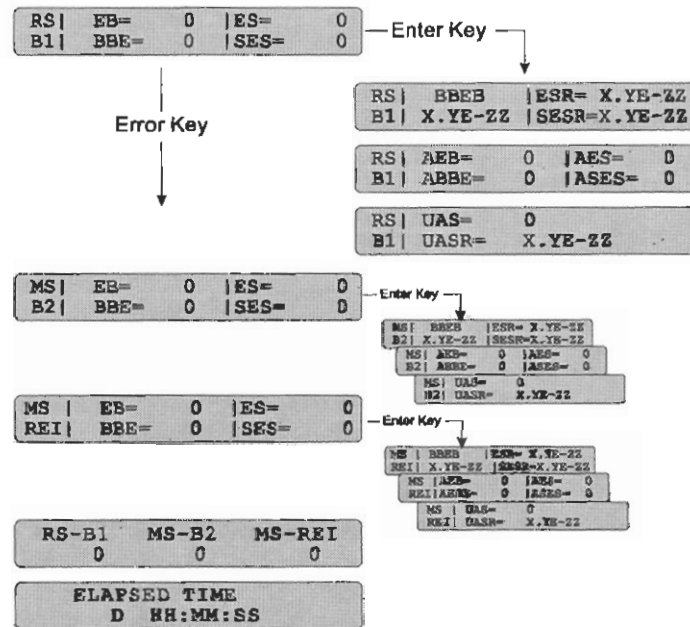

Figure 3-7 Receiver Error (SDH)
The ERROR key on the receiver side of the front panel is used to scroll through the five LCD displays shown in Figure 3-7 on the left side. The enter key on the right side of the LCD display is used to access a set of three submenus for each of the first three main menus—RS-B1, MS-B2, and MS-REI. Errors that were detected on the 2.4 Gb/s SDH signal are displayed in the RS-B1, MS-B2, and MS-REI error summary menus. These errors are totaled in the fourth menu, as illustrated on the left side of Figure 3-7. The last menu on the lower left will display the elapsed test time in: days, hours, minutes, and seconds. Each press of the error key will cycle to the next error display in a continuous loop, until some other key is pressed.
- The RS-B1, MS-B2, or MS-REI summary menus (Figure 3-7) include: the EB (Errored Blocks) which is the error count; the BBE (Background Block Errors); the ES (Errored Seconds); and the SES (Severely Errored Seconds). These measurements conform to the ITU G.826 standard.